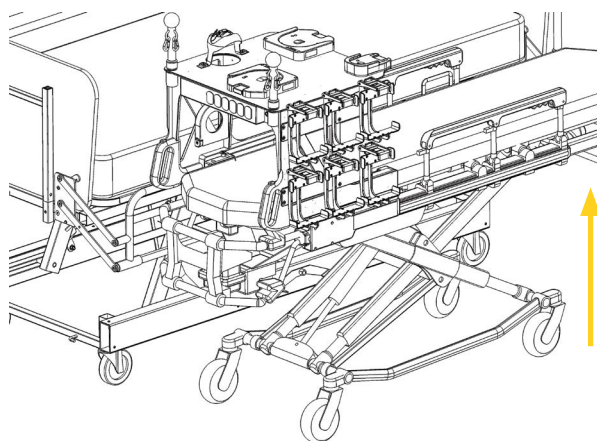

Figure 7: Stretcher position for lateral transfer
2. Position the stretcher on patient left to prepare for the lateral transfer (Figure 7).
3. Lift the stretcher parallel to the bed using the mechanism (Figure 7). Refer to the stretcher user documentation for proper use and recommendations if needed.
4. Straighten the stretcher wheels, ensuring that the longer side of the wheel is facing patient foot end (Figure 7), then apply the brakes.